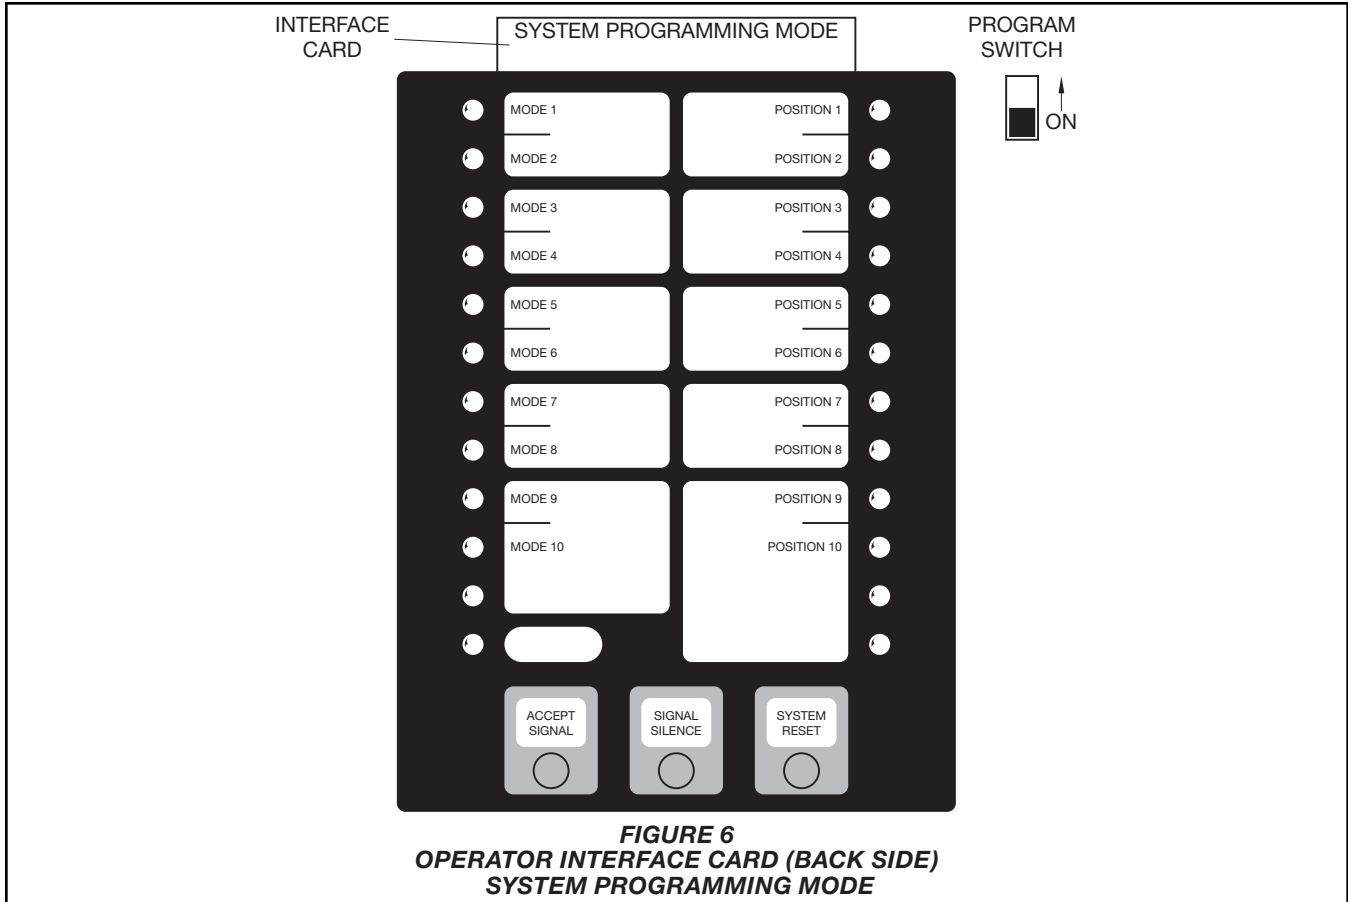

FIGURE 6
Step 1. With reference to Figure 6, remove the Operator Interface Card and reinsert it so that the System Programming Mode on its back side faces the front.
Step 2. Place the PROGRAM SWITCH (Figure 6) to the ON position and then momentarily press the ACCEPT SIGNAL KEY to accept the resulting programming mode trouble.